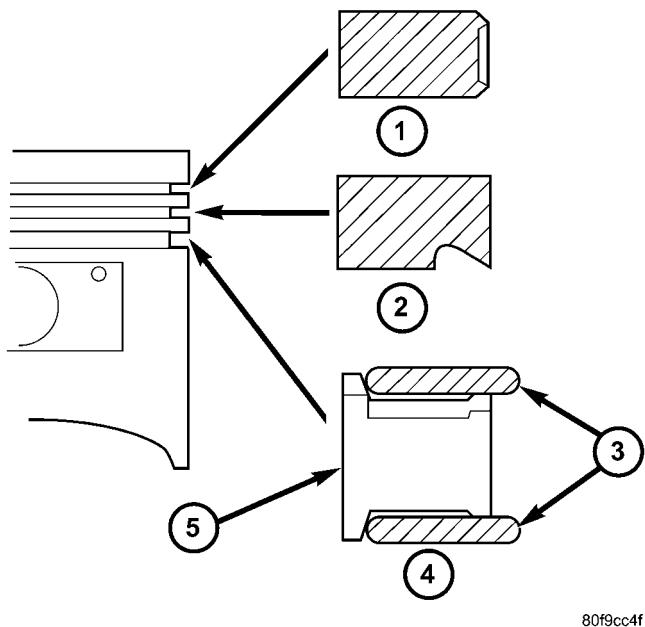

Fig. 72 Piston Ring Installation
Install rings with manufacturers identification mark facing up, to the top of the piston (Fig. 72).
(1) Install oil ring expander (Fig. 72).
(3) Install No. 2 piston ring and then No. 1 piston ring (Fig. 72).